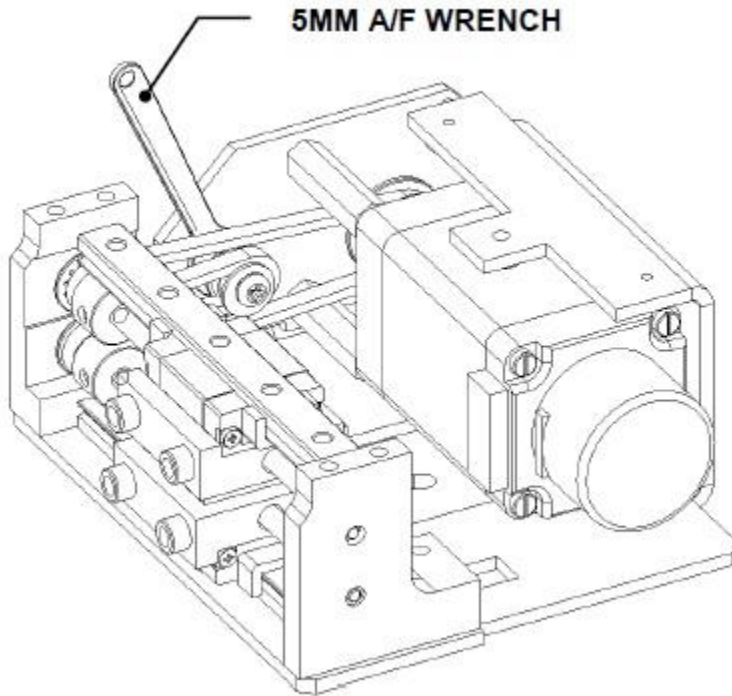

Figure H-21: Position of Wrench to Tighten Locking Screw
3. Ensure that the M2.5 x 6 SHCS locking screw into the Gripper Eccentric Idler is tight. Use a 5mm A/F wrench (Figure H-21).